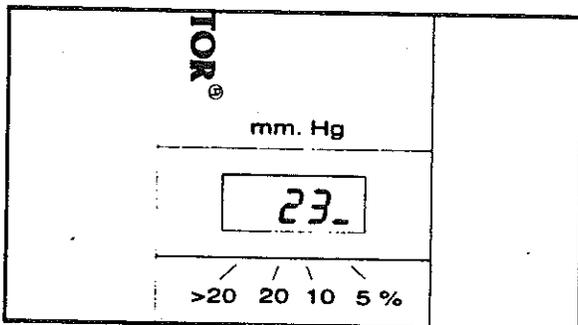

Figure 8 - LCD
- B. The display of one of four horizontal bars located along the lower border of the LCD block indicates the statistical reliability of the averaged measurement (see Figure 8). For example, if the 5% bar is displayed, the standard deviation of the valid measurements is 5% or less of the number shown.